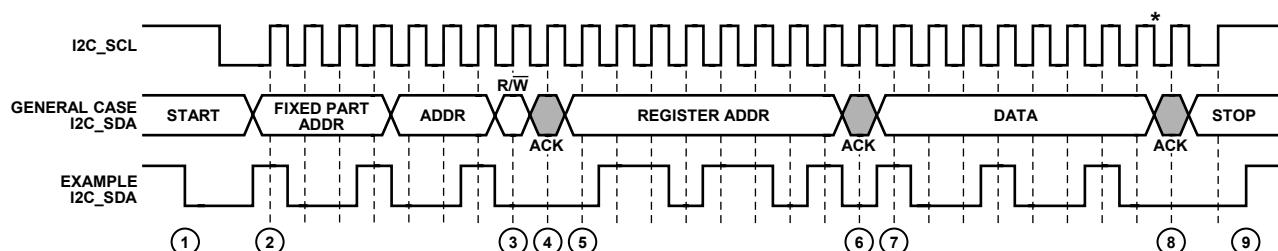

Figure 29. I²C Write Diagram
To write data to the AD8197A register set, an I²C master (such as a microcontroller) needs to send the appropriate control signals to the AD8197A slave device. The signals are controlled by the I²C master, unless otherwise specified. For a diagram of the procedure, see Figure 29. The steps for a write procedure are as follows:
3. Send the write indicator bit (0).
- 9a. Send a stop condition (while holding the I²C_SCL line high, pull the I²C_SDA line high) and release control of the bus to end the transaction (shown in Figure 29).
There is a delay between when a user writes to the configuration registers of the AD8197A and when that state change takes physical effect. This update delay occurs regardless of whether the user programs the AD8197A via the serial or the parallel control interface. When using the serial control interface, the update delay begins at the falling edge of I²C_SCL for the last data bit transferred, as shown in Figure 29. When using the parallel control interface, the update delay begins at the transition edge of the relevant parallel interface pin. This update delay is register specific and the times are specified in Table 1.